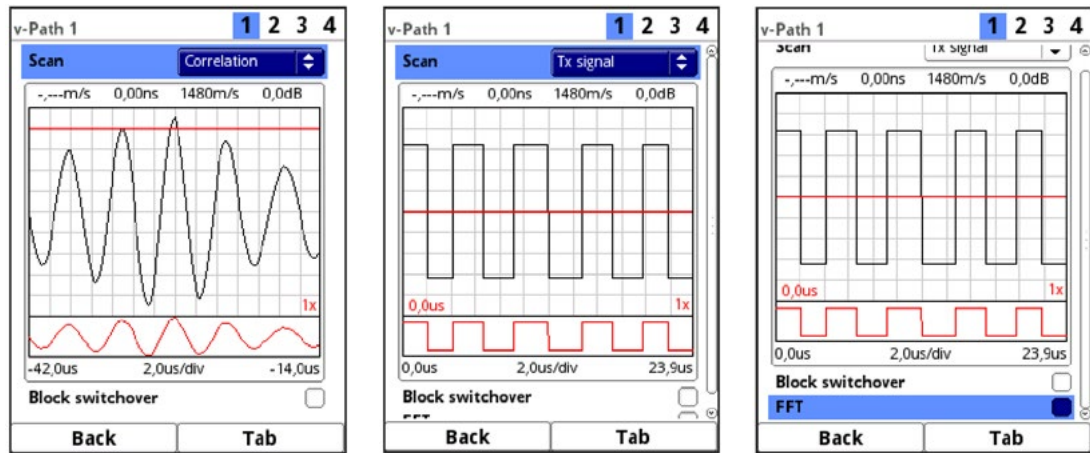

Fig. 44-4 Correlation / Tx signal
- **>Correlation<** (Fig. 44-4)
- **>Tx signal<** (Fig. 44-4)